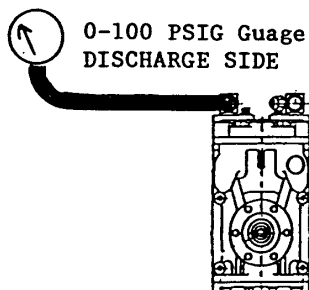

FIGURE 3
8.1.1 If the service ports have back seating valves, be sure the valves are open (in the back seat position). Connect the pressure gauge to the discharge port as shown in FIG. 3.